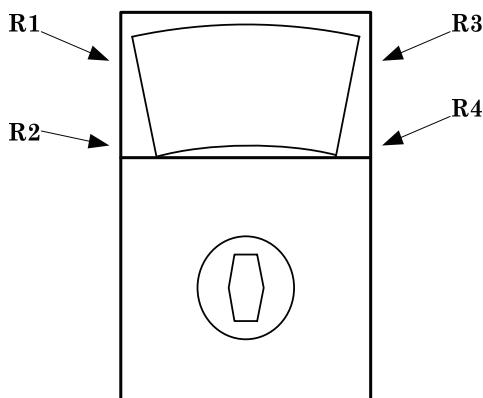

Figure 1. Simpson, model 160.
| Ac volts range | Indication (V) | Initial output (V) | Frequency (Hz) | err indication $\pm (%)$ | Adjustments (fig. 1) (R) |
| Dc current range | Indication (A) | Initial output (A) | err indication \pm (%) | Adjustments (fig. 1) (R) |